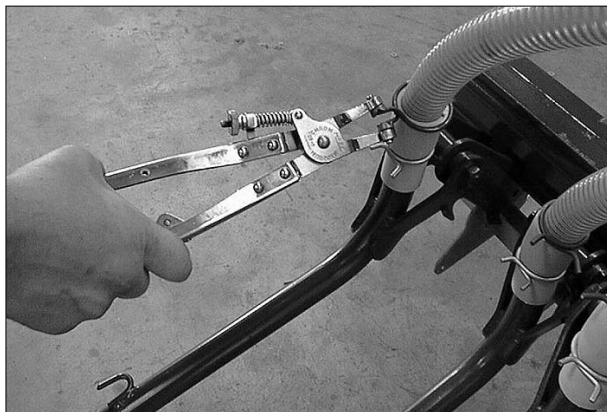

Fig. 7-10
3. Reinsert the hose into the union and secure it by means of the hose clip (see fig. 7-10).